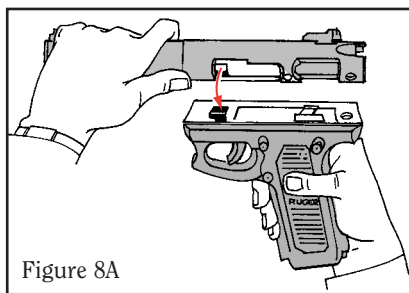
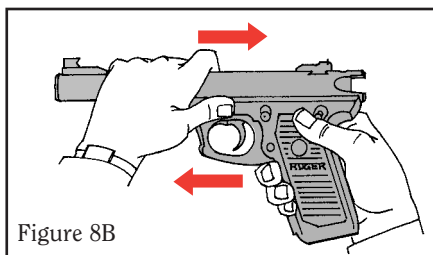

Figure 8A
Figure 8B
3. Place the barrel receiver on top of the frame so that the square lug engages the square front recess on the underside of the receiver (see Figure 8A). Push the barrel rearward until it stops, with the rear end of the receiver slightly overhanging the rear end of the grip frame (see Figure 8B). If alignment cannot be achieved by hand pressure, place the pistol (muzzle down) on a padded bench and strike the rear of the grip frame immediately below the receiver with a plastic or wooden mallet. Be careful not to damage the grip frame.